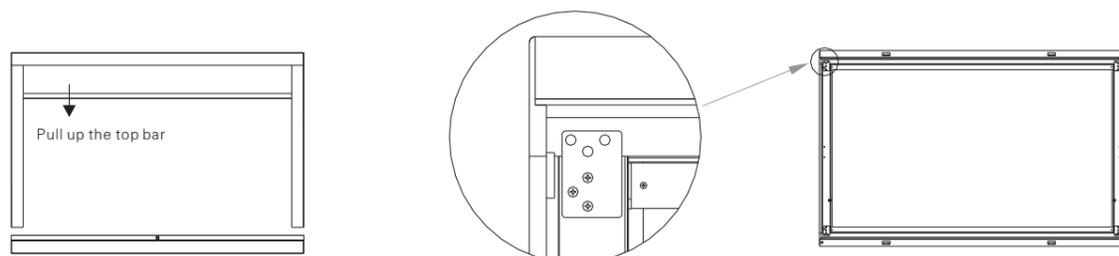

figure 3
3. The installation of low bar is the same as top bar. Notice: please pull up the top bar to a suitable distance and keep it when operating this step, otherwise, the low bar can not be pulled out, and then the installation is completed (figure 3).